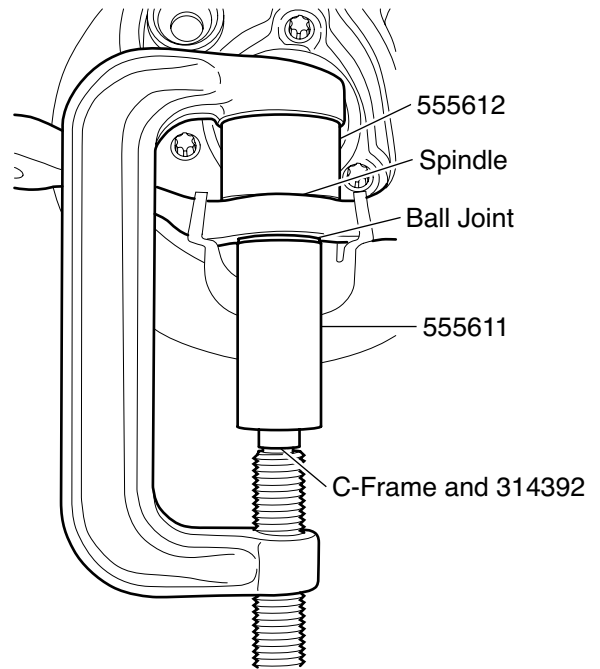

Figure 1. Ball Joint Removal
3. Position 555612, 314392 and the C-Frame as shown in Figure 1.